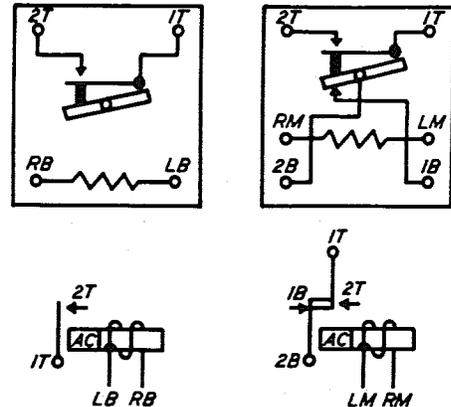

FIG. 11-WINDING AND SPRING TERMINAL ARRANGEMENT AS VIEWED FROM THE REAR (TERMINAL SIDE)-87 TYPE RELAY
2.31 The contact terminals are numbered consecutively from right to left facing the terminal side of the relay with the suffix T (top) or B (bottom). On those relays having only a front contact, the spring operated by the armature stud is indicated by 1T and the front contact spring is indicated by 2T. On those relays having a front and back contact, the spring operated by the armature stud is indicated by 1T, the front contact spring by 2T, the back contact by 1B and the armature by 2B. The relative positions and designations of the winding terminals are shown on Fig. 11.